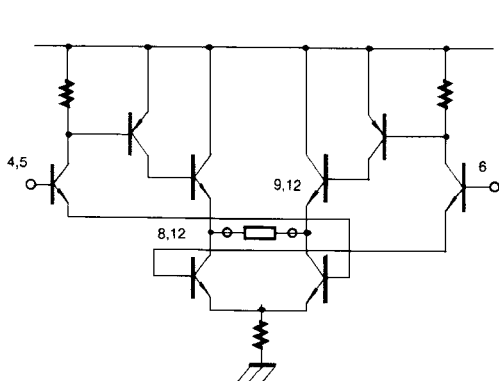

Fig. 6
(2) Pin 2 input current (control input) increases (at rotation control IC)
(3) Hall amplifier gain increases
(4) Output current increases
(5) Motor rotation increases then the motor rotation becomes constant.
- Concerning about the output current flow, if Pin 4 voltage is high relative to Pin 6, an output current resulted from the voltage difference flows from Pin 8 to Pin 9. If Pin 6 voltage is higher than Pin 4 conversely, output current flows from Pin 9 to Pin 8. If Pin 5 voltage is higher than Pin 6, an output current resulted from the voltage difference flows from Pin 12 to Pin 11. When Pin 6 voltage is higher than Pin 5 conversely, output current flows from Pin 11 to Pin 12. (Fig. 6)